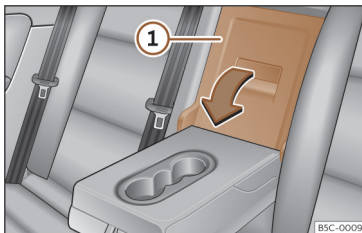

Fig. 195 On the rear seat backrest: opening the trapdoor.
- Pull the release lever in the direction of the arrow and push the trapdoor cover >>> Fig. 195 ① down and forwards.